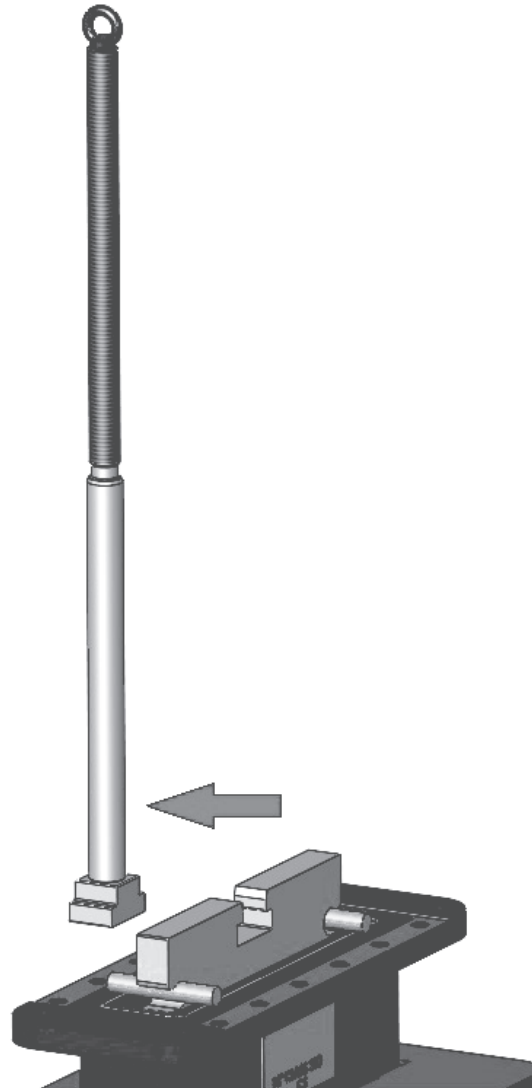
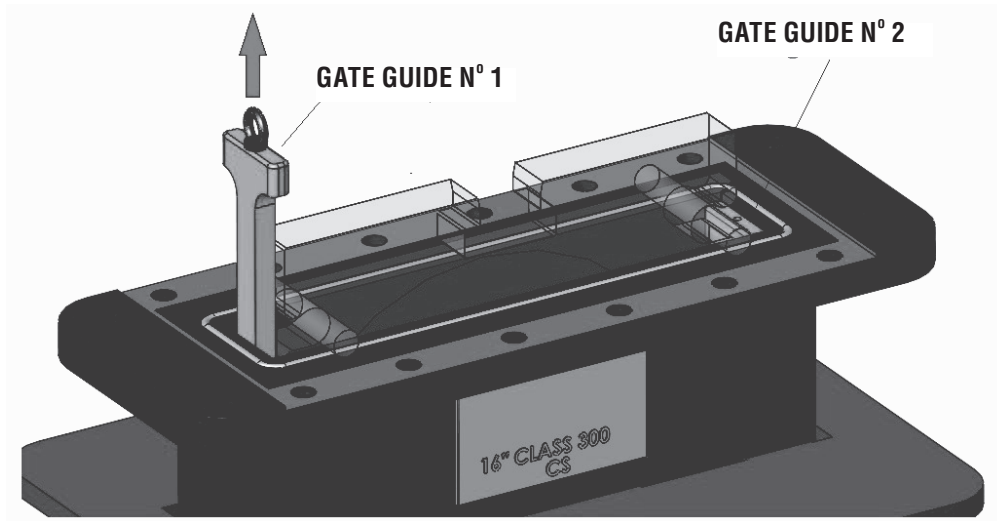

Figure 12 - Stem head disengaging.
Figure 13 - Gate guides removal
15. Move sidewise the stem releasing the stem head from its housing in the gate (Figure 12)
16. Remove stem and seat grease fittings (19 and 16) and the vent fitting (18) from the bonnet, to clean.
17. While the slab still inside the body supported as shown in Figure 12, screw an male eyebolt in the tapered hole placed at the guide upper surface (Figure 13). By means of a crane, lift the guide until its complete disengagement from the body. Repeat the same procedure for the gate at the opposite side – N°2.